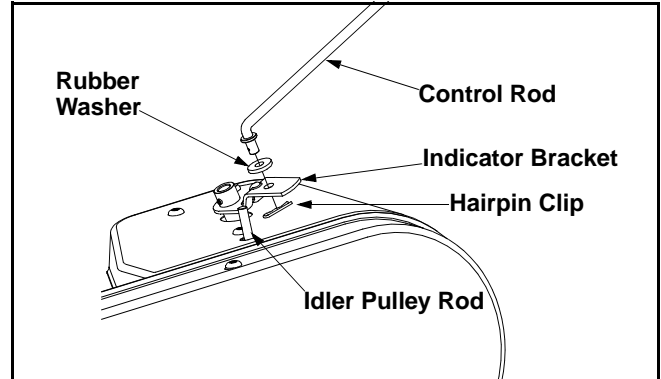

Figure 5
- Insert the shorter, (angled), end of the control rod through the indicator bracket on the shift cover and secure with hairpin clip that was previously removed. See Figure 5.